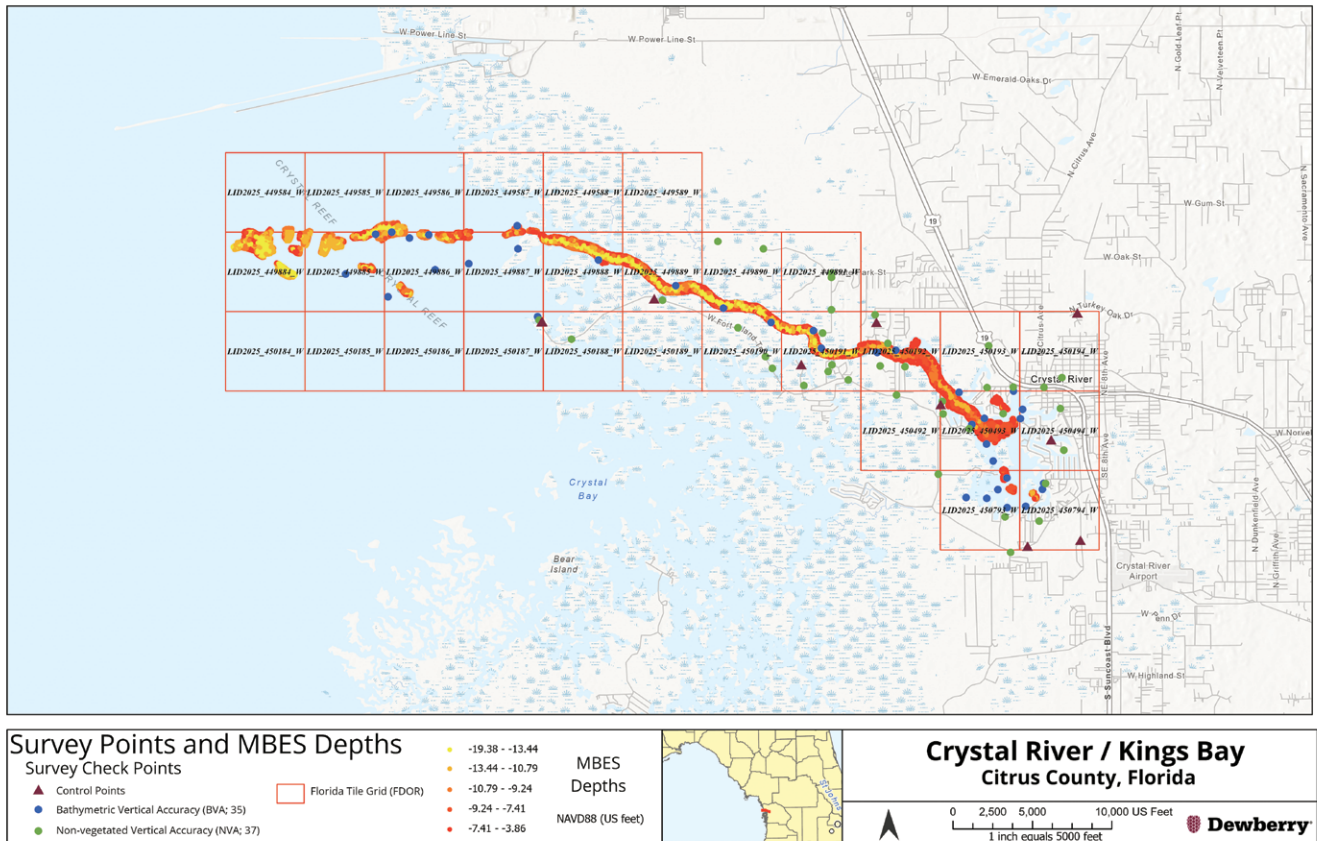

Figure 5: Distribution of multibeam echosound (MBES), single-beam echosound (SBES) and acoustic checkpoint surveys.
data along the reach of the Crystal River, through selected areas within Kings Bay (**Figure 5**), acquire six (6) single-beam sonar cross-sections at pre-selected locations along the Crystal River, and perform lidar control and ground truth surveys (**Figure 5**). Vessel-based survey was performed with either a 22-foot cabin boat or a 10-foot pontoon boat as constrained by the river. Sonar surveys were conducted with a CEESCOPE Echosounder (single-beam) and either a Norbit iWMBS + Applanix AP20 or PingDSP multibeam sonar system. Single-beam sonar was collected on 13 June 2025; multibeam, on 19–25 June 2025.
(BVA) checkpoints were surveyed (Figure 5). NVA check points were surveyed on 11–24 September 2025; BVA checkpoints, on 3–4 June 2025. All check points were reported to the same horizontal and vertical datums, and coordinate reference system as the lidar, as indicated in Table 3.